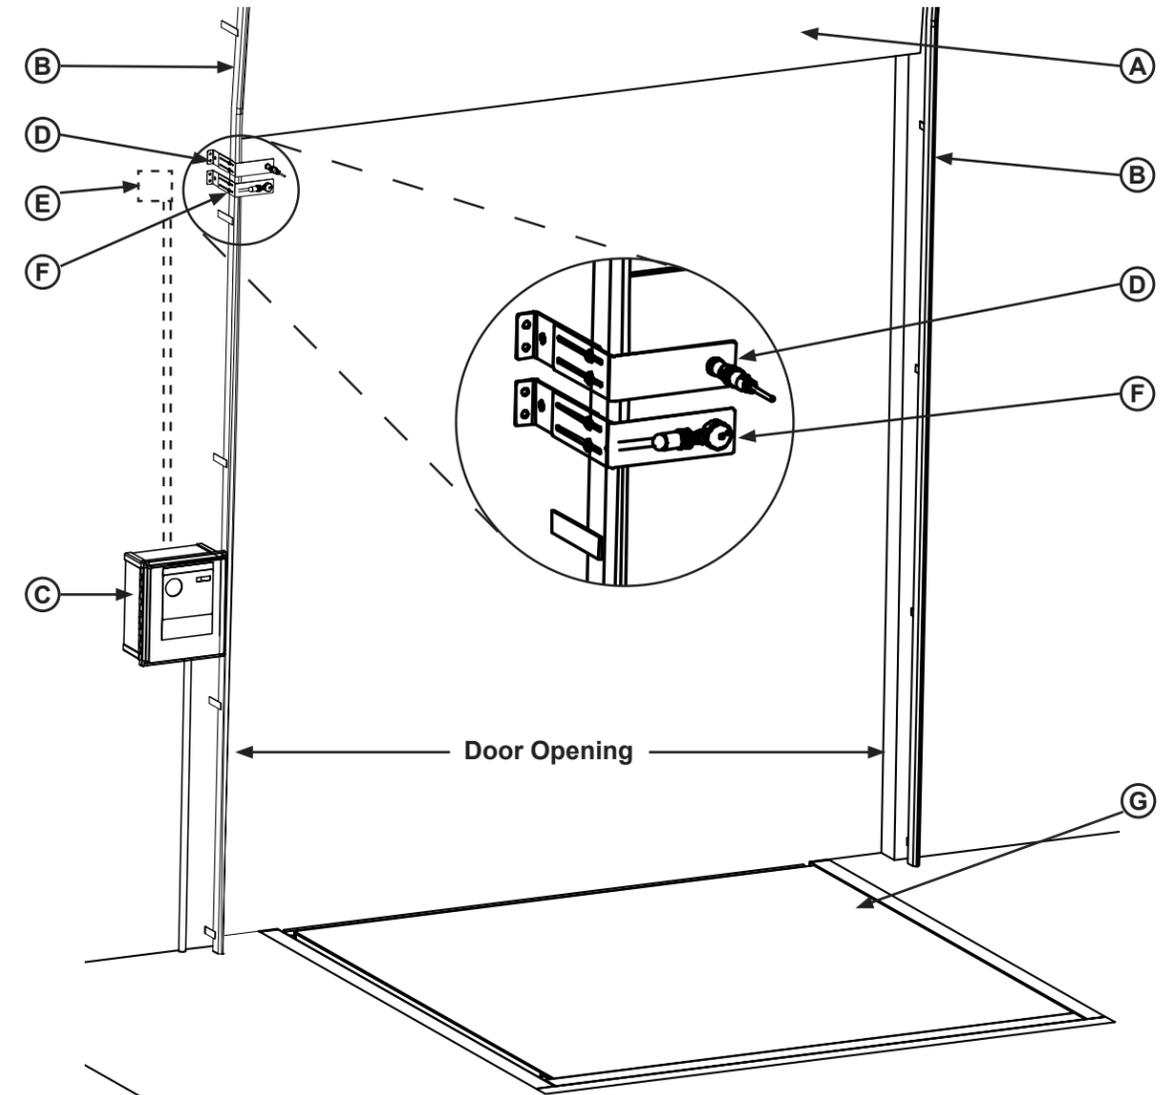

Figure 1
1. Determine a suitable mounting location for the door open sensor and bracket (D), according to Figure 1.
2. Locate the bracket and door sensor (D) on the same side of the door opening as the iDock controller (C), to ensure sufficient cable length to reach iDock.
1. Attach cable (M) to the sensor (J).
2. Secure the sensor cable following all applicable local and national codes. See suggested J-Box placement (E) near the sensor(s). Reference Figure 1.
3. Terminate the cable in the iDock controller (C) with the following connections: